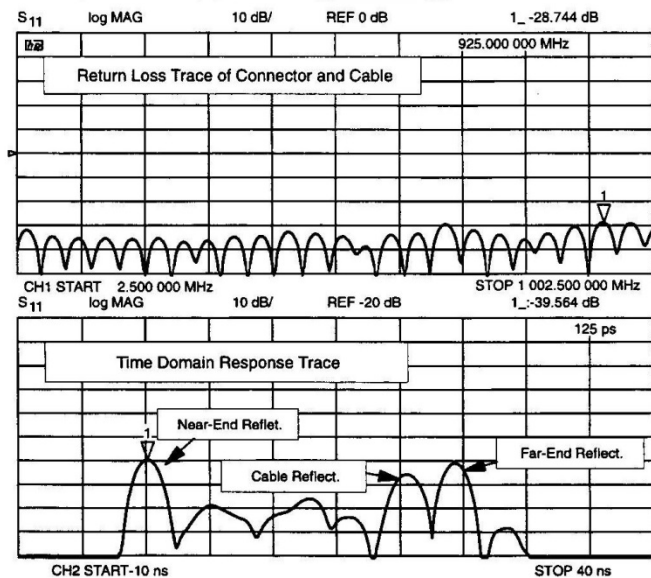
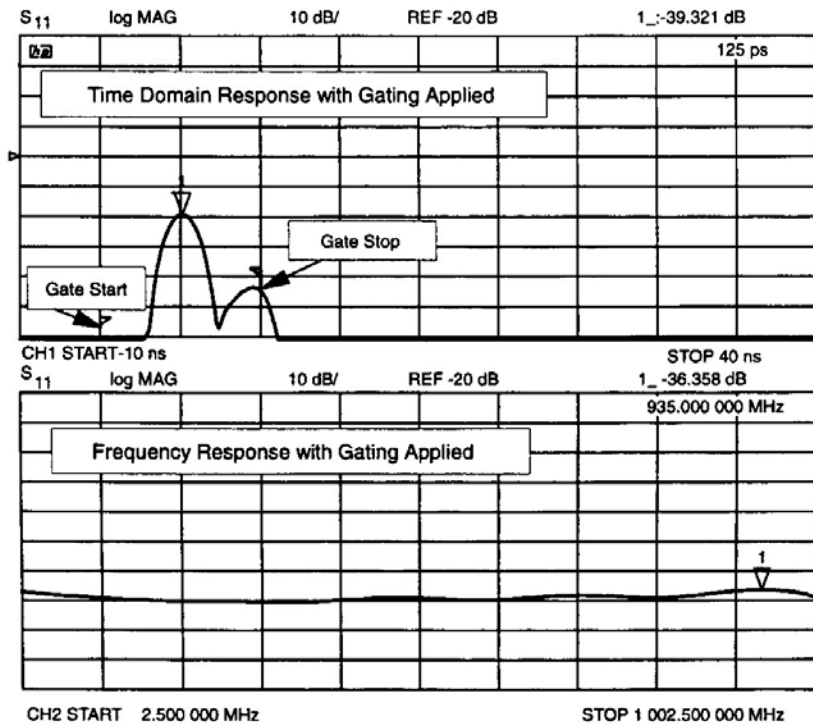

Figure 2 – Time Domain and Frequency Response Trace (no gating)
Figure 3 – Time Domain and Frequency Response and Gating
- 7.4 Connect the connector/cable interface to be tested to the type "F" test port. Be sure to properly dress the center conductor to avoid damage to the precision "F" test adapter. A precision termination shall be used at the far end of the cable. Check the reflection trace. There should be a ripple pattern in the return loss indicating the beat pattern of the near end cable and the far end termination. The upper trace of Figure 2 shows a typical frequency domain trace.
dB). Any defects in the cable or the far end termination greater than these values may degrade the measurement. The lower trace of Figure 2 shows a typical time domain trace.
- 7.6 Select the TRANSFORM menu. In this menu select the GATING menu. Set the gate start time to -5 ns, and the gate stop time to +5 ns. Turn the gating ON. This should remove the far end termination response. The upper trace of Figure 3 shows a typical time gated trace.
- 7.7 With gating left ON, turn the transform OFF to see the time gated frequency response. The ripple pattern of Figure 2 should change to show the frequency response of only the near end connector. The lower trace of Figure 3 shows a typical time gated frequency response. A marker is positioned at the worst case point. Note that there may be some small edge effect at the start and stop of the trace.